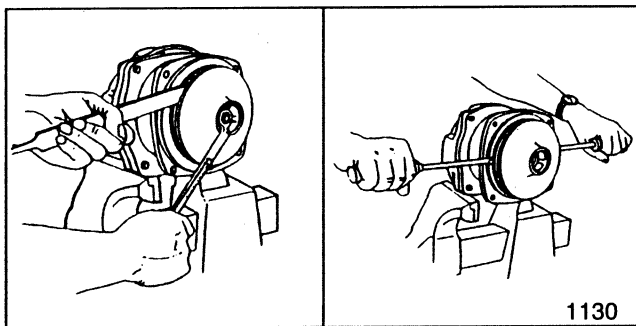

FIG. 6
2. To remove the impeller nut, clamp the flange in a vise and insert a large screwdriver or flat file (at least 10" long) into impeller vanes to prevent impeller from turning when loosening nut. Use a 5/8" box end or socket wrench to remove the impeller nut by turning it counterclockwise. See FIG 6.
3. Once nut is removed, place a screwdriver on each side (FIG 6) behind the impeller and pry away from the mounting flange. Remove woodruff key from the shaft.